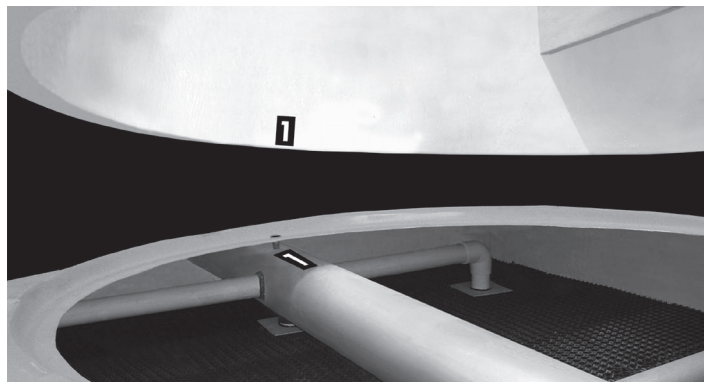
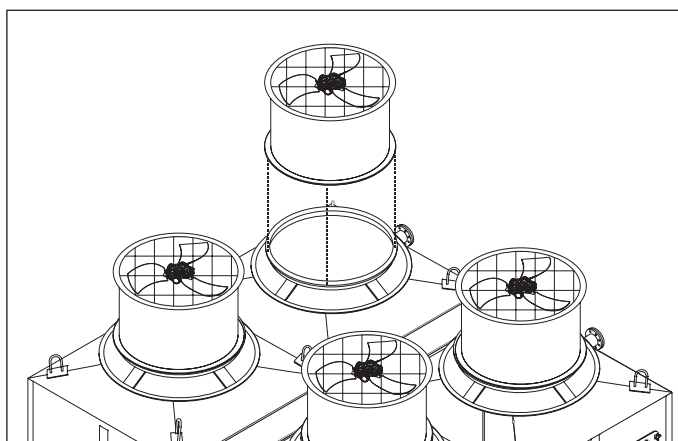

Figure A-97: Fan Duct alignment
Figure A-98: Fan Duct installation on a fan adaptor for a Quadruple Fan Tower
- D. If there is more than one fan, follow the same instructions from previous step to install remaining Fan Ducts (see an example in Figure A-98). Each fan duct is labeled with a number on the inside of the lower edge; for a correct installation, this number must match the number on the corresponding fan adaptor (see Figure A-97).